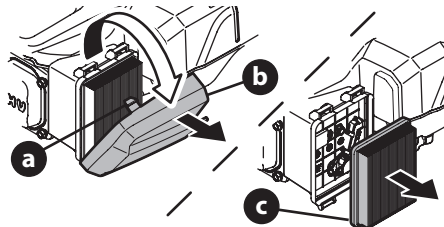

Figure 10
1. Press down on the tabs (a) securing the air filter cover (b). Pull back and remove the cover (Figure 10).